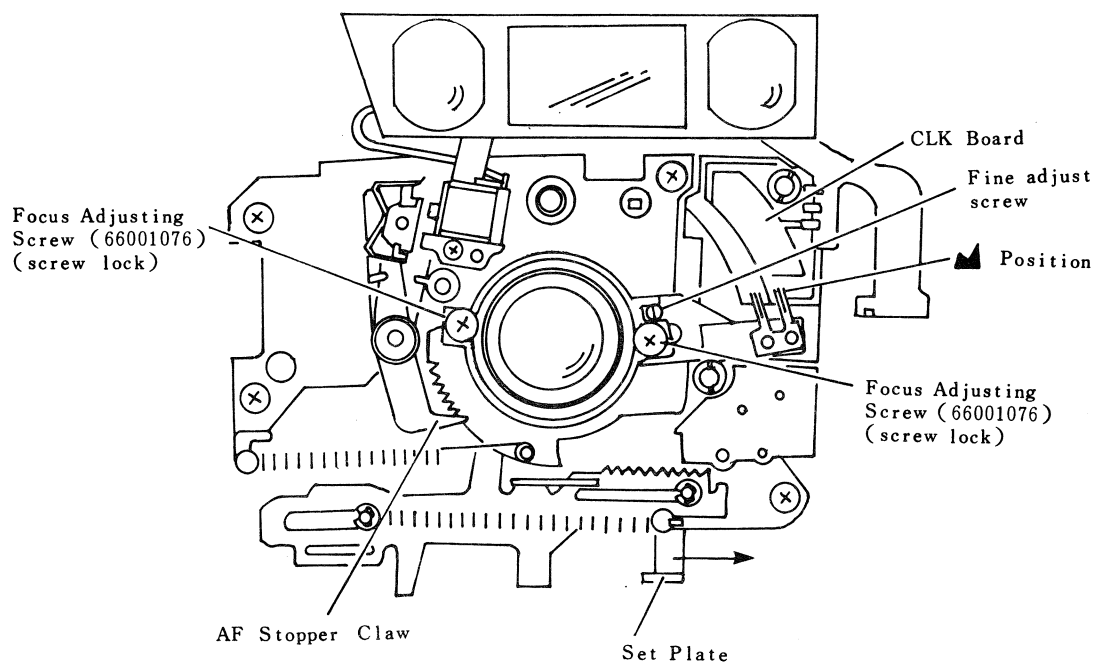

Fig 22
- 4) Set the contact of Focusing Ring Ass'y at (▲) position (Release the AF Stopper claw) as shown in (Fig 22).
After tighten Focus Adjusting Screws and adjust fine adjustment, adjust by turning the fine adjust-screw as shown in (Fig 22).